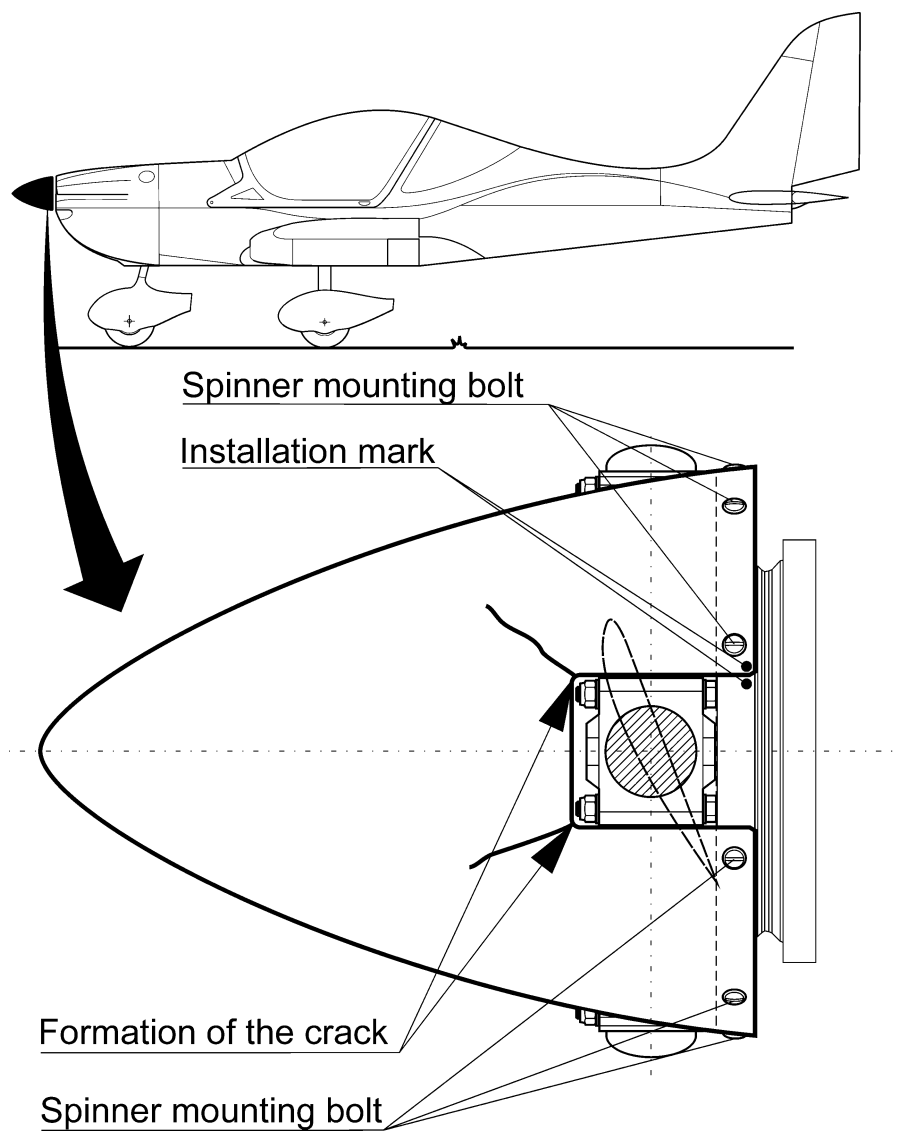

Fig. 1 – Visual examination of the propeller spinner exterior
- 1.3.5.6 Put the **new** spinner (2) to the **new** backplate (3) in the position marked by red dots on the circumference (see Fig. 1). **Never install the spinner in other position.**